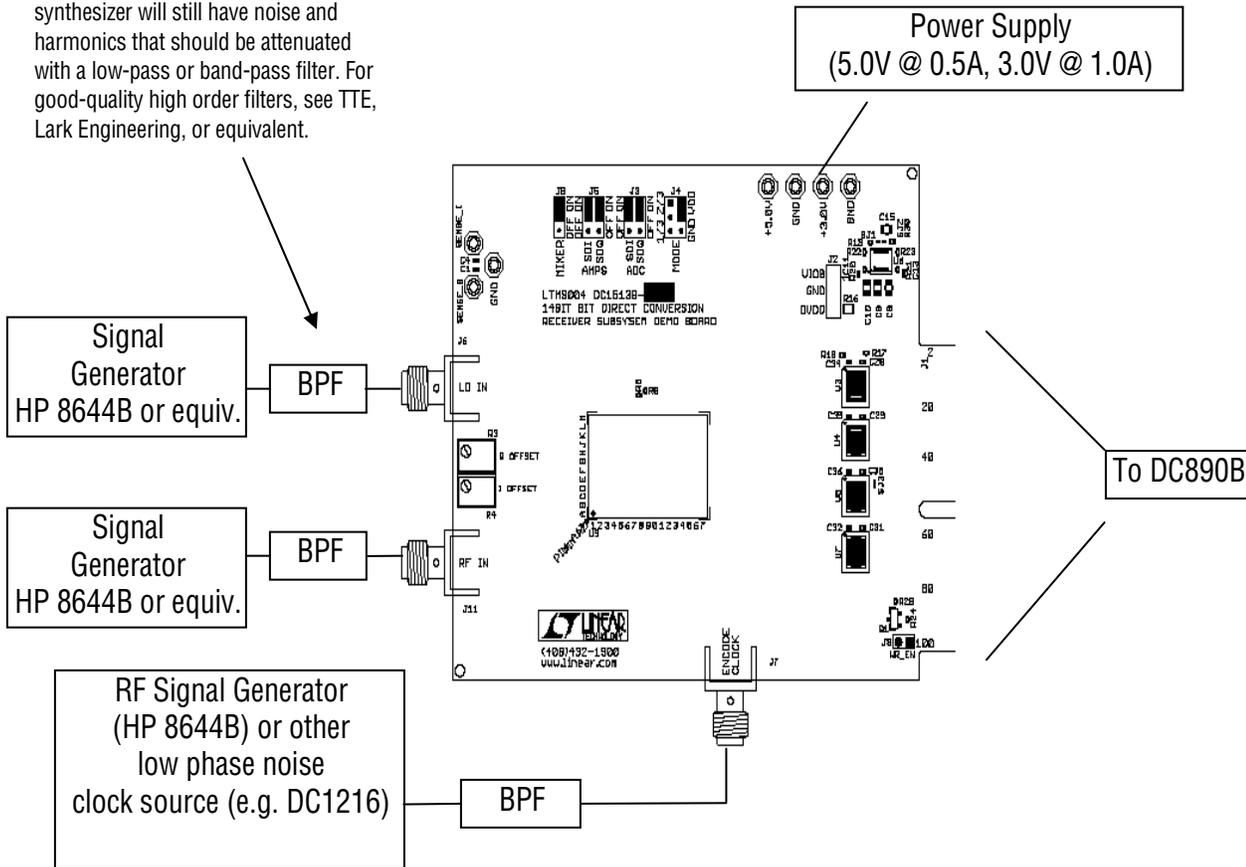

Figure 1. Proper Measurement Equipment Setup
Validating the performance of the LTM9004 is simple with DC1513, and requires only two input sources, a clock source, a computer, and a lab power supply. Refer to Figure 1 for proper board evaluation equipment setup and follow the procedure below:
1. Connect the power supply as shown in Figure 1. There are on-board low-noise voltage regulators that provide the two supply voltages for the DC1513. The entire board and all components share a common ground. The power supply should still be a low-noise lab power supply capable of supplying at least 0.5 Amp @ 5.0VDC, and 1 Amp @ 3.0VDC.